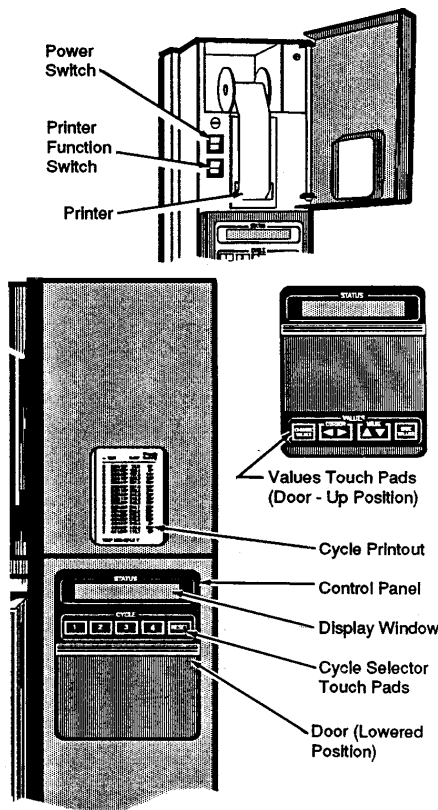

Figure 4-8. Turn Power On
4.8 Manual Operation: Gravity (Wrapped or Unwrapped Goods) or Liquids Cycle Only (See Figure 4-8)